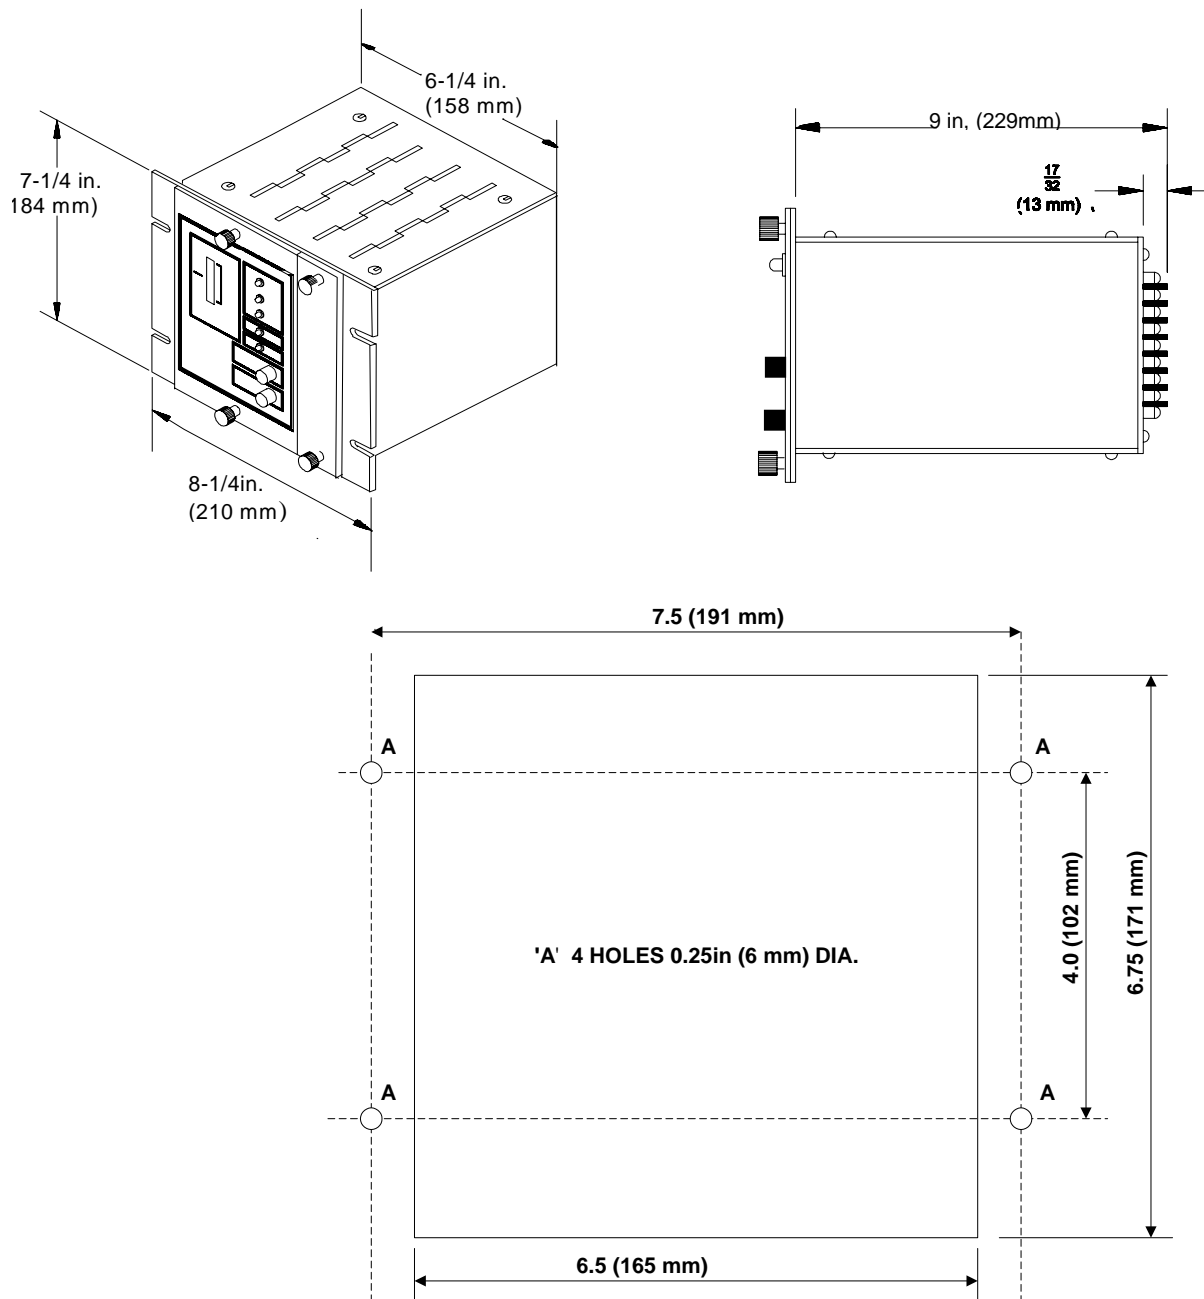

Figure 1 Dimensional Details GADD MKIII
- FIG. 1 Dimensional details for GADD MKIII